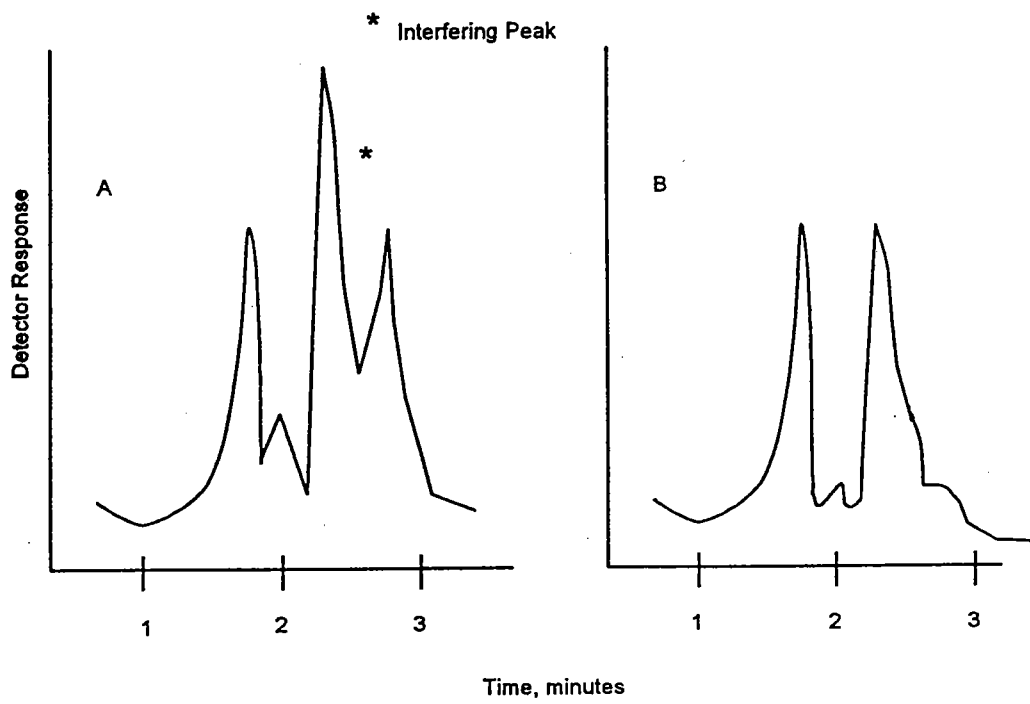

Figure L107A-1.
1. Tetrahydrofuran (THF). Inject 10 μL THF into the gas chromatograph (GC). For the reagent to be acceptable, the chromatogram must look like Figure L107A-1(B). If the chromatogram looks like Figure L107A-1(A), sparge the THF with pure N_2 for about 2 hr using the fritted glass sparger to remove the interfering peak, and analyze again.